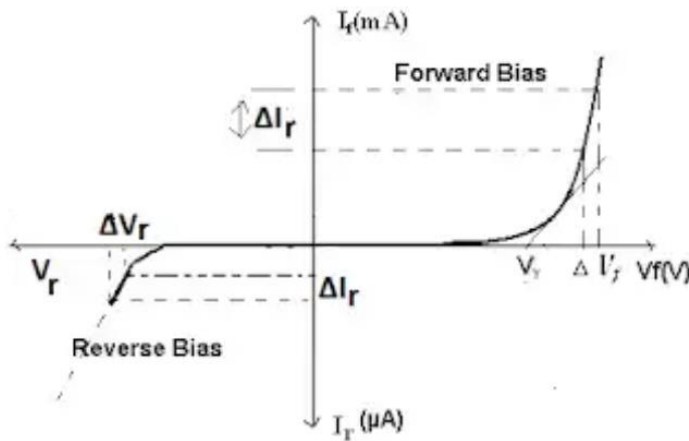

Fig. 3: VI characteristic of Forward Bias diode.
1. Before connection of the diode in the circuit test that diode is working or not, for that connect the diode the anode terminal with +ve probe of multimeter and cathode with -Ve probe and adjust the multimeter knob at Diode symbol as shown in figure 3. If value on multimeter is zero then diode is working fine and if lower voltage present in the diode it is due to charged capacitor.